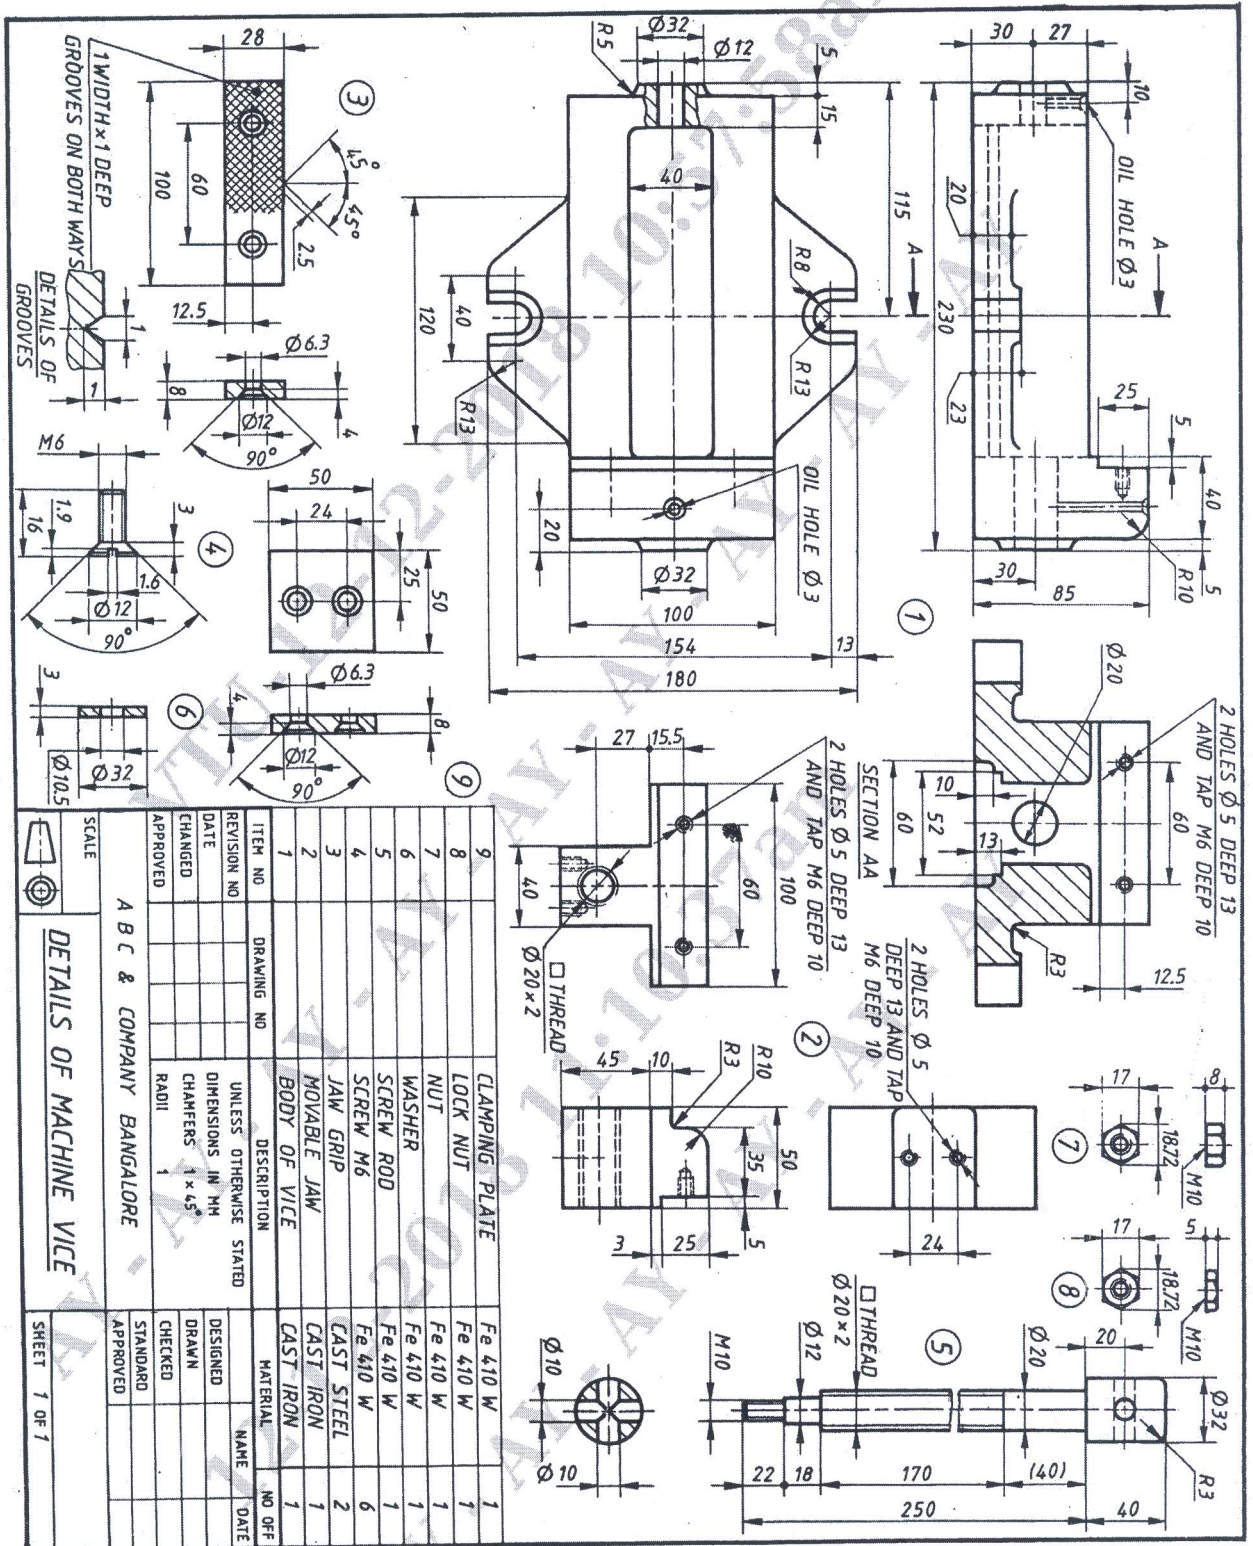

Figure 1: Details of a "Machine Vice"
- Q.No.5** Figure 1 shows the details of a "MACHINE VICE". Assemble the Parts and show the following views.